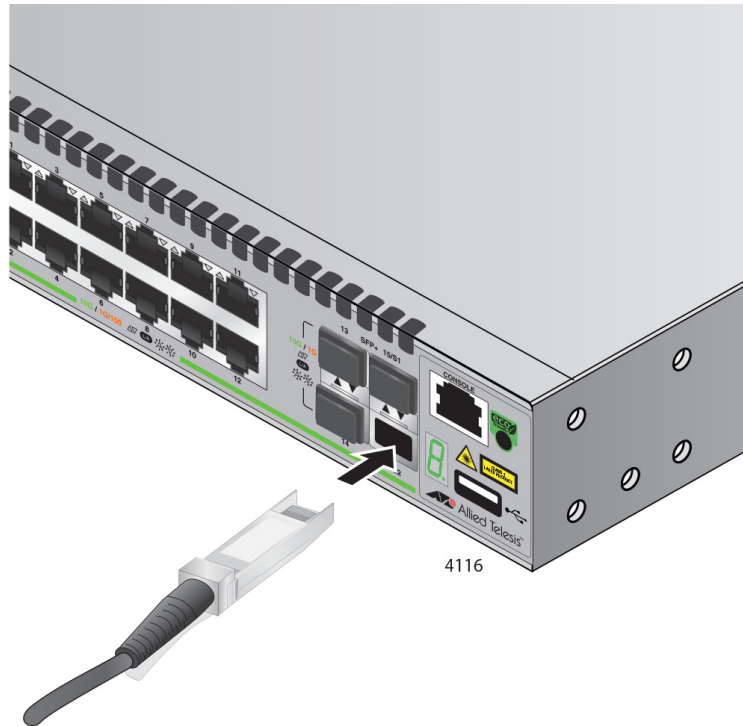

Figure 37. Installing the Transceiver in Slot S2
7. Position the transceiver with the release tab on the bottom and slide it into the slot until it clicks into place, as shown in Figure 37 on page 66.